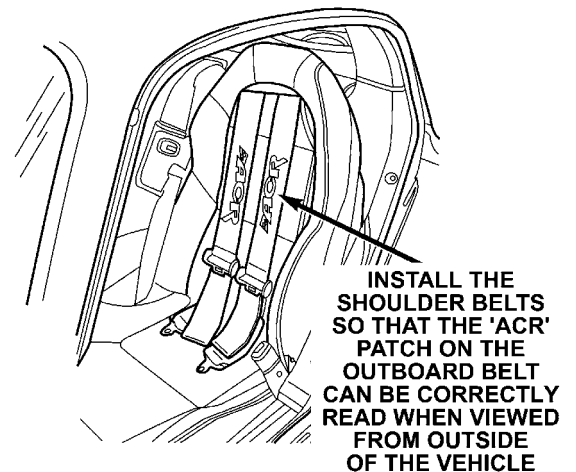

Figure 5 – ACR Model Shown
**NOTE: The new 5-point harness shoulder belts are NOT interchangeable (inboard and outboard). Install the shoulder belts so that the outboard belt patch can be correctly read when viewed from outside of the vehicle (Figure 5).**